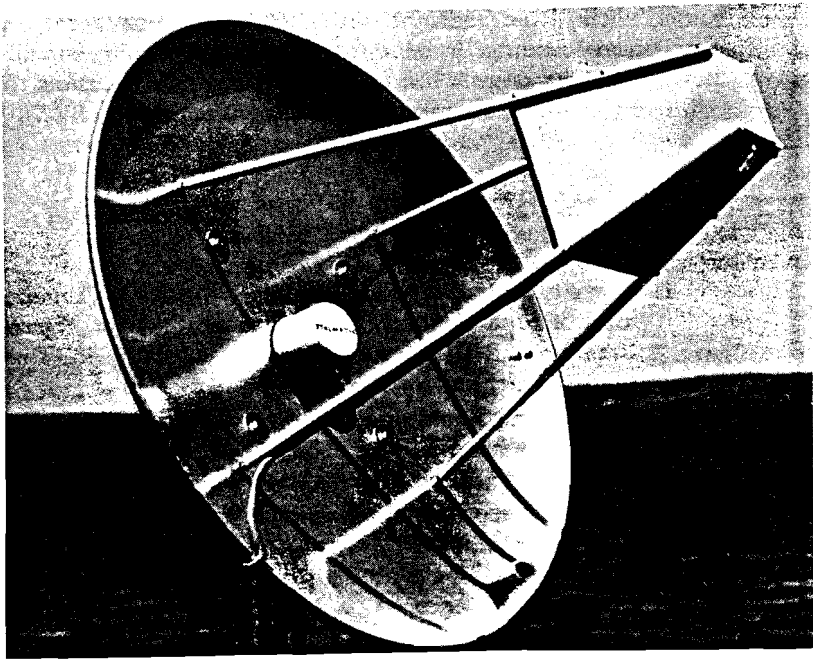

Figure 11-11. Detail View-GPX Enclosure & Standoff Dowels
Most every hardware store stocks hardwood dowels from ¼-inch (6.4-mm) diameter and up. I chose the ⅜-inch (9.5-mm) diameter dowels two years ago for my 13-inch (332-mm)-spaced Gunnplexer and 16½-inch (421-mm) spaced Gunnplexer enclosure standoff dowels illustrated in *Figure 11-11*. Both have withstood the test of
1. Use a coping or jig saw to quarter the first 6-⅞ inches (173 mm) of each standoff dowel as shown in **B** of *Figure 11-11*. Remove one of the quarters with an *Exacto* knife or the blade pocket knife.